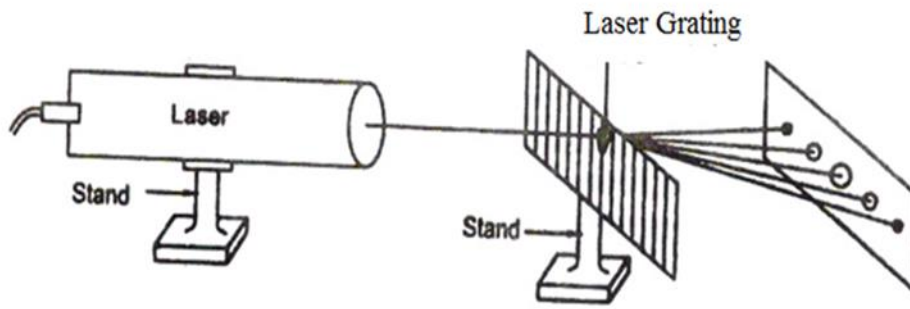

Fig. 1.1 Laser grating experiment
Diode laser is kept horizontally and switched on (care should be taken). The grating is held normal to the laser beam. This is done by adjusting the grating in such a way that the reflected laser beam coincides with the beam coming out of the laser. As shown in the Fig.1.1 After adjusting for normal incidence, the laser light is exposed to the grating and it is diffracted by it. On the other side of the grating on the screen, the diffracted laser spots are seen. The distances of different orders from the centre spot are measured. The distance between the grating and screen (D) is measured. Using the formula ' θ ' is calculated. The wavelength of the laser light source is calculated using the given formula.